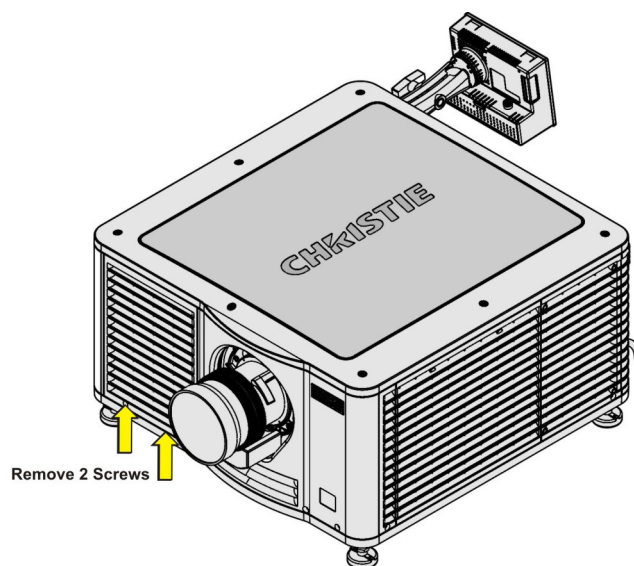

Figure 7-4 Remove Light Engine Air Filter
1. Loosen the 2 captive screws on the bottom of the filter cover. (Figure 7-4)